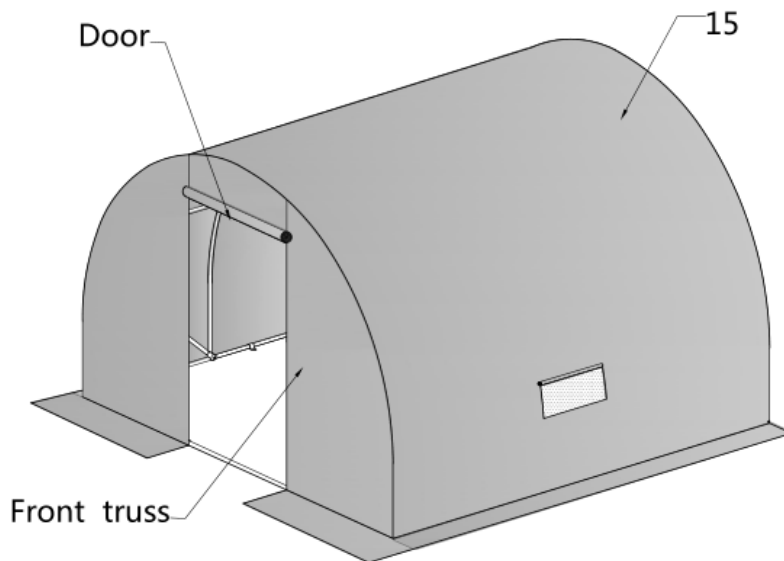

Figure 12
- Lift cover or panel (#15) to fully cover the truss, noting that the side with the door needs to be placed on the front door arch. Then adjust the four sides evenly (refer to figure 12)